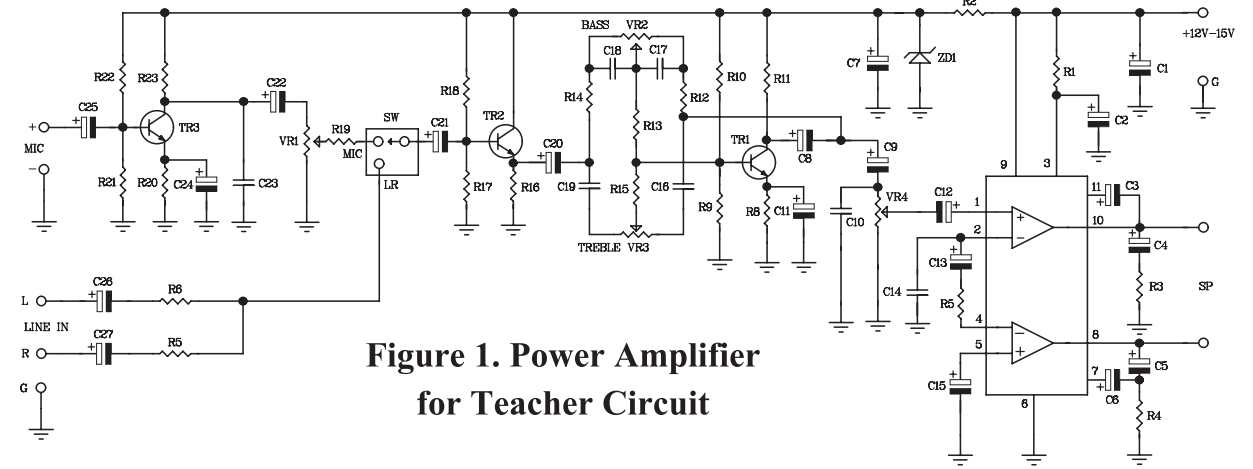

Figure 1. Power Amplifier for Teacher Circuit
The circuit diagram shown in figure 1 can be divided into three parts; input, ton-control and power amplifier. In the input part consist of MIC input and LINE IN. The signal of microphone is also coupled to transistor TR3 via capacitor C25. Transistor TR3 pre-amplifier the signal of microphone. The signal of microphone is coupled to the volume control (VR1) by capacitor C22. VR1 is used to adjust the signal of microphone to tone-control part. At "LINE IN" point, the signal is coupled to the selector switch (SW) by capacitor C26 and C27. Which also blocks any DC voltage that may be present on the signal.